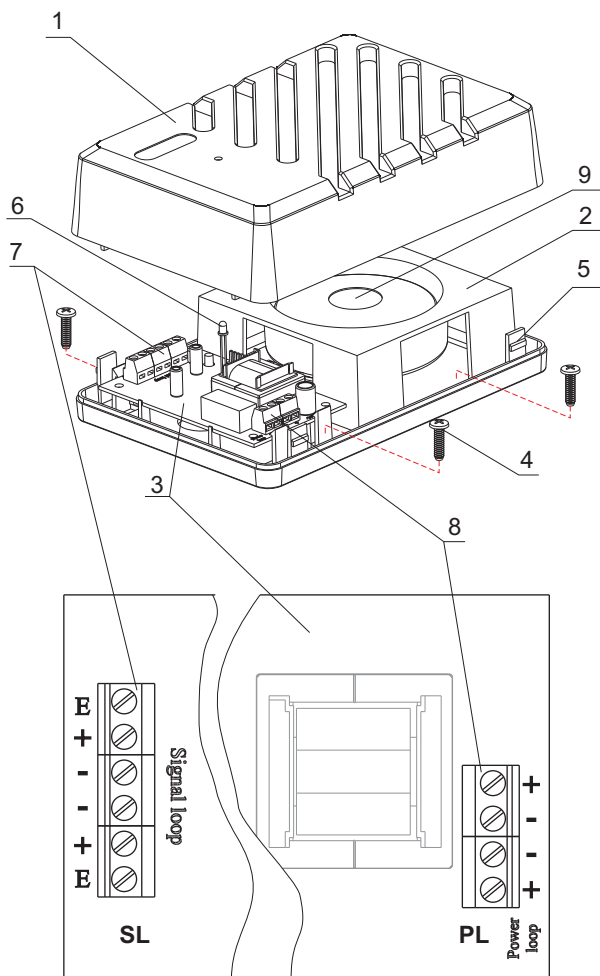

Fig.1
The addressable sounder consists of a base(fig.1, pos.2), piezoelectric transducer(fig.1, pos.9), printed circuit board with connection terminal for wiring the signal loop **SL**(fig.1, pos.7) and connection terminal for wiring the power loop **PL**(fig.1, pos.8), cover(fig.1, pos.1). The LED (fig.1, pos.6) illuminates to indicate the sounder's mode of operation:
1. Remove the cover from the sounder base by releasing the clips(fig.1, pos.5).
2. Fix the base on the wall of the protected premises using appropriate fixings(fig.1, pos.4). If necessary, remove the printed circuit board before that.
2. Wait until the sounder is set to Duty Mode and send a test command for activation through the fire control panel. The sounder shall enter Fire condition and shall produce a discontinuous sound signal of sound level 110dB and frequency 3 kHz/3,2 kHz; the LED indicator (fig. 1, pos. 6) shall illuminate continuously.